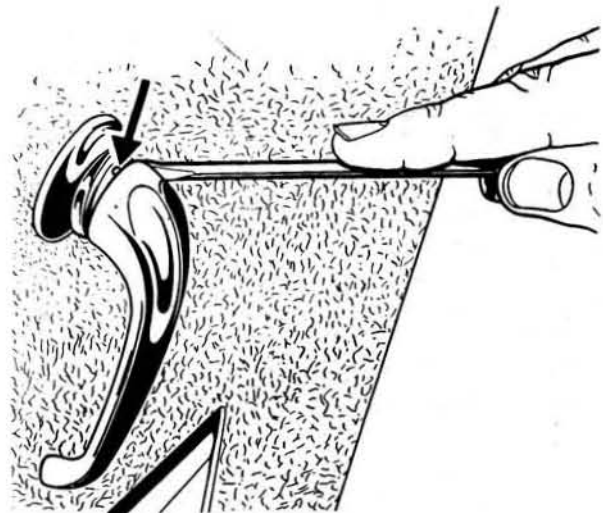

Fig.12.9. Showing the retaining pin for the door lock and window handles
- 4 Refer to Fig.12.9. Press in the spring loaded cap on both the door and window handles. A small retaining pin will now be uncovered and this should be pressed out to remove the handles.